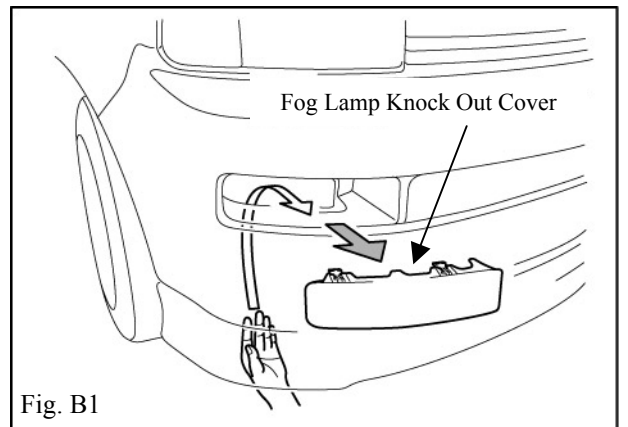

Fig. B1
2. Remove fog lamp knock out cover by reaching under the front bumper cover. (Fig. B1)